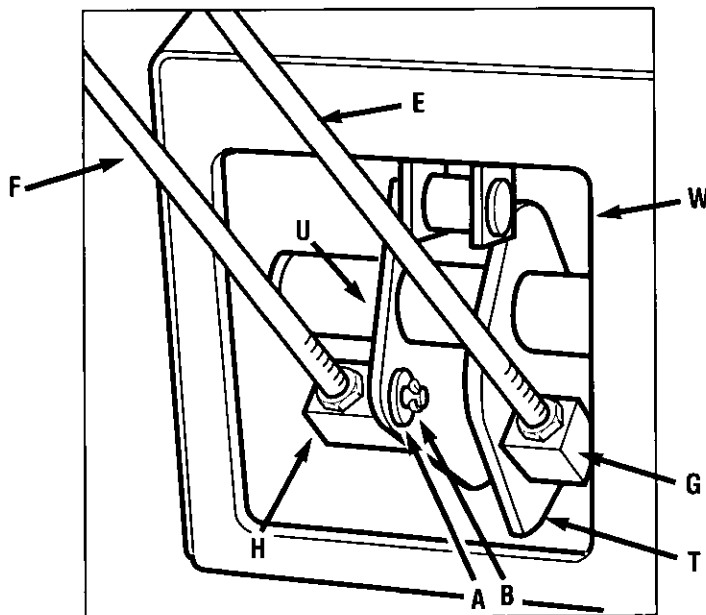
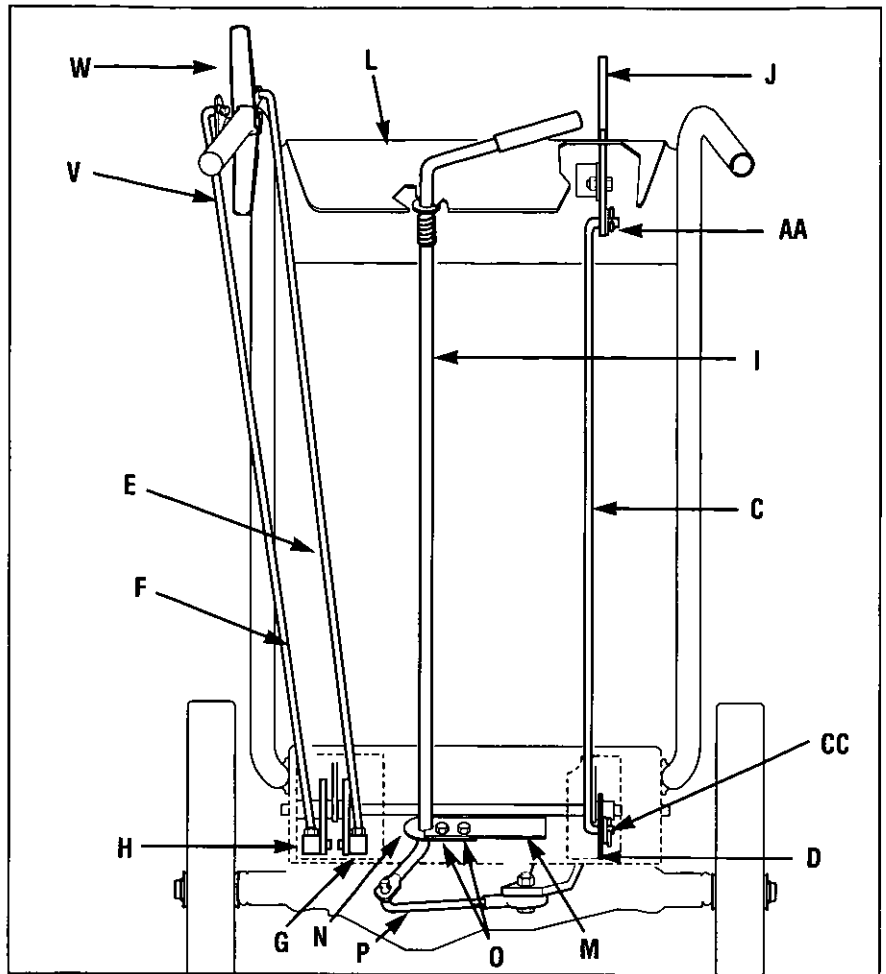
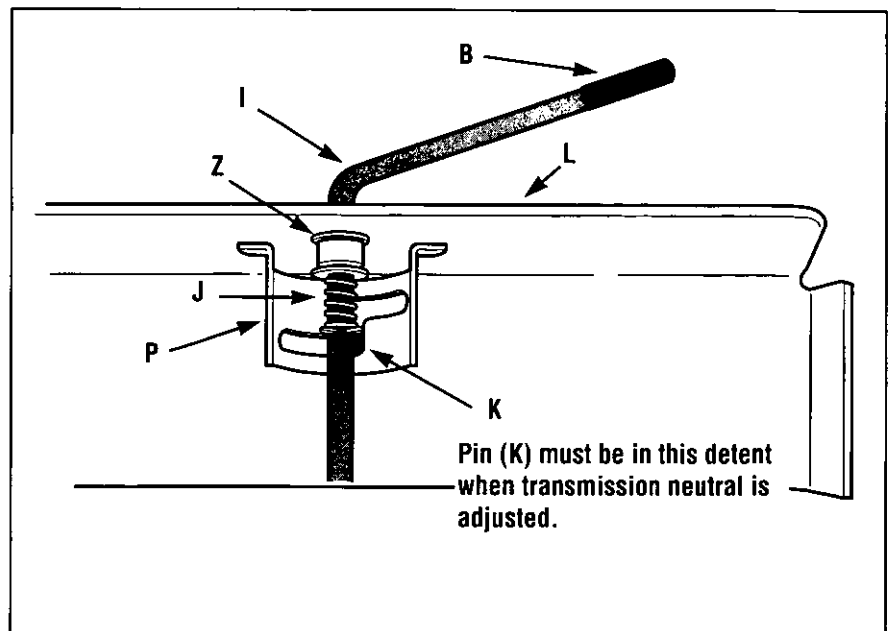
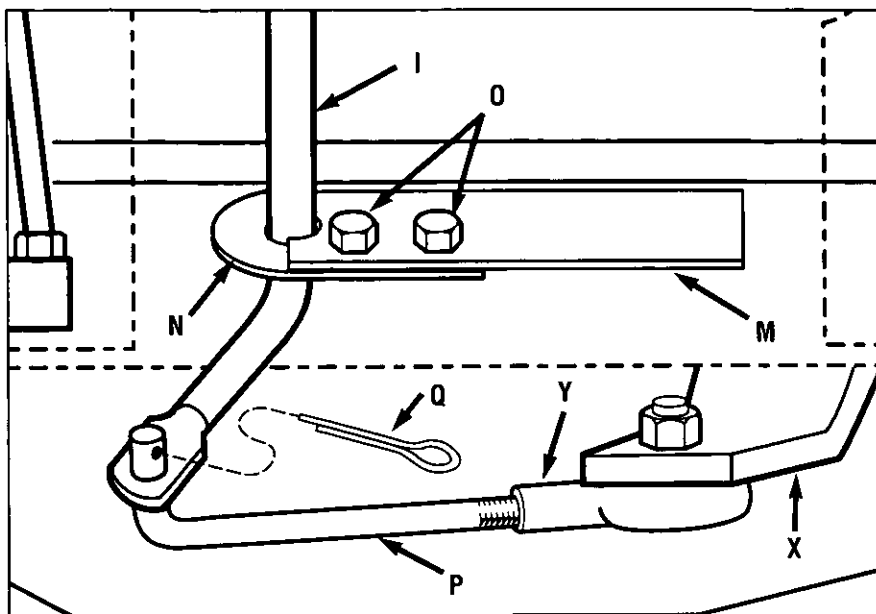

Figure 2-6: Left-hand control rods in detail.
Figure 2-7: Rear view of control rods.
Figure 2-8: Detail - Gear Select Lever in Neutral (N) position.
Figure 2-9: Detail - Transmission Neutral Adjustment.
1. Cut and remove any plastic tie(s) holding wheel drive rod (F, Figure 2-7) to left handlebar and blade drive rod (C, Figure 2-7) to right handlebar. Put rods aside.
1. Locate the wheel drive control rod (F, Figures 2-6 & 2-7) that you removed from the left handlebar in Step 2. This rod has a swivel block (H, Figure 2-6) on one end.
2. At left side of engine frame, insert swivel block (H, Figures 2-6 & 2-7) on wheel drive control rod into wheel drive control arm (U, Figure 2-6).
3. Add one 5/16" washer (A, Figure 2-6). Secure with cotter pin (B, Figure 2-6). Bend ends of cotter pin to secure the rod.
1. Locate control rod (E, Figures 2-6 & 2-7) attached at upper end to Operator Presence Control (W, Figure 2-7).
2. At bottom of control rod, insert swivel block (G, Figures 2-6 & 2-7) into control arm (T, Figure 2-6).
1. Locate the blade drive control rod (C, Figure 2-7) that you removed in Step 2. Insert one end of control rod into blade drive bracket (D, Figure 2-7). Add one 5/16" washer and secure with cotter pin (CC). Bend ends of cotter pin to secure.
2. Insert upper end of rod into bottom end of Blade Drive Control lever (J). Add one 5/16" washer and secure with cotter pin (AA). Bend ends of cotter pin to secure.
1. Using the edge of a piece of flat wood (such as a ruler), remove the vinyl grip (B, Figure 2-8) from the gear select lever (I). Place the wood edge against the edge of the grip and slowly pull off the grip.
2. Insert nylon bushing (Z, Figure 2-8) up into console (L).
3. Slide spring and washers (J) down onto gear select lever.
4. Insert gear select lever (I) up through nylon bushing (Z) in handlebar console (L, Figure 2-8). Guide pin (K) on gear select lever into groove in shift quadrant (P).
5. Hold lower part of gear select lever (I) against bracket (M, Figure 2-9). Position retaining plate (N) from parts bag in place as shown in Figure 2-9 (plate below bracket). Secure plate with two 1/4"-20 x 1/2" long screws (O) and 1/4"-20 locknuts.
6. Slide grip (B, Figure 2-8) back onto upper end of gear select lever (I).
7. Rotate gear select lever (I, Figures 2-8 & 2-9) clockwise until spur (K - short rod) on gear select rod stops in the neutral position detent on the shift pattern quadrant (Figure 2-8).
8. At bottom of control rod, thread shift link (P, Figure 2-9) partially into ball-joint (Y).
9. Move shift arm (X, Figure 2-9) from side to side as necessary into each transmission gear detent until transmission is in neutral.
**NOTE:** Moving shift arm (X) all the way to the left, and then one notch back to the right, should put transmission into neutral. When transmission is in neutral, unit will move freely when pushed while holding the Operator Presence Control lever (W, Figure 2-7) down. If transmission is NOT in neutral, there will be a slight drag on the wheels when pushing unit.
10. When shift arm (X) is in neutral position, rotate shift link (P) toward end of gear select lever rod (I). Adjust length of shift link (P) as necessary to fit into hole in bottom of gear select lever (I).
**NOTE:** Pin (K) on Gear Select Lever (I) must be held in the neutral position detent on the shift quadrant (see Figure 2-8) while shift link (P, Figure 2-9) is adjusted.
11. Insert hooked end of shift link (P, Figure 2-9) into hole in bottom end of gear select lever (I) and secure with cotter pin (Q). Bend ends of cotter pin. **NOTE:** It may be necessary to lift gear select lever (I) to install shift link (P).
12. Remove unit from shipping crate. To remove, hold down Operator Presence Control lever (W, Figure 2-7) which releases the wheel brake.
13. Hold down Operator Presence Control lever (W, Figure 2-7) and push unit forward and backward. The wheels should move freely. If not, adjust length of shift link (P, Figure 2-9) as necessary.
14. Put the Gear Select Lever in neutral (N), release all of the control levers, and try to push the unit forward and backward. The wheels should not turn. If they do turn, an adjustment is necessary. **DO NOT OPERATE THE UNIT UNTIL THE WHEEL BRAKE MECHANISM HAS BEEN ADJUSTED AND IS WORKING PROPERLY.** See "Wheel Brake Adjustment" in Section 5 "Maintenance."
1. Move mower to a level area. Press and hold down Operator Presence Control lever (W, Figure 2-7) to move mower.